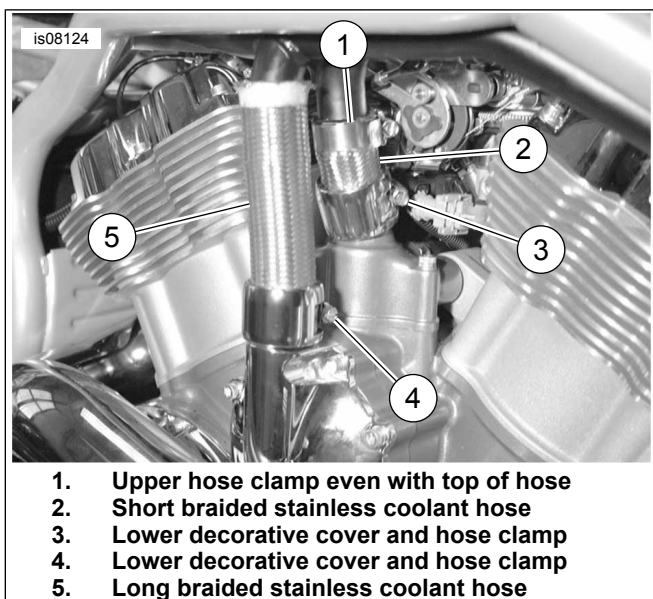
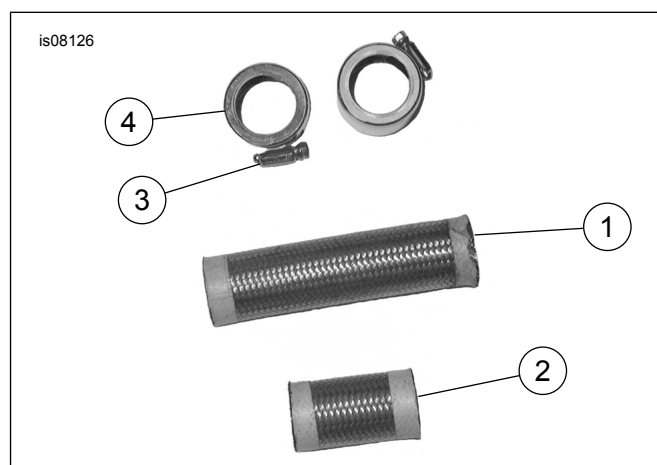

Figure 5. Install Braided Hoses and Clamps
Figure 7. Service Parts
9. See Figure 7. Obtain new worm drive Clamp (3) and Decorative Cover (4) from kit. Tighten clamp to decrease diameter until clamp will fit into decorative cover as shown. Loosen clamp until clamps rounds out fully on inside of cover as shown. (with clamp adjuster extending from cut-out). Perform the same procedure for the remaining cover and clamp.
10. Obtain new Inner Hose (2) from kit. Slide the decorative cover (with clamp) over one end of hose until hose butts up against end of cover.
11. See Figure 5. Orient hose with decorative cover at bottom. Use coolant to lubricate end and install hose onto inlet tube. Twist while pushing downward until hose slides as far down onto tube as possible. At the top of frame, lightly lubricate hose with coolant and install the coolant line tube into top of hose. Twist hose assembly while pushing tube into hose as far as down as possible.
15. See Figure 5 and Figure 7. Obtain longer braided hose (1) and remaining Worm Drive Clamp (3) and Decorative Cover (4) assembled during Step 9.
17. Refer to Figure 5. Use coolant and lightly lubricate the inside of the end of hose. Orient hose with decorative cover at bottom as shown and install hose onto inlet tube. Twist while pushing downward until hose slides as far down onto tube as possible. Do not tighten worm drive clamp.